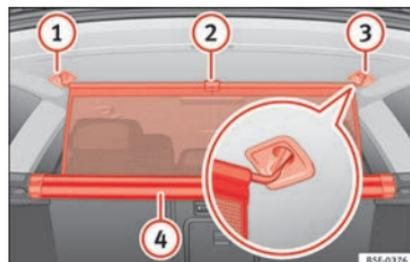

Fig. 168 In the luggage compartment: pulling out and securing the net partition.
- Pull up handle »» Fig. 168 **2** to remove the net from the casing **4**.
- Hook in the net partition on the right side ③ (magnified image).
- Hook in the net partition in the left side housing ① pulling the rod.